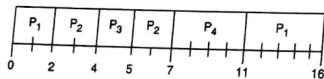

Fig. 13.3.7 : Pre-emptive SJF scheduling
- The figure SJF pre-emptive scheduling of this example is shown in the Fig. 13.3.7. Since process P1 came first, it started first and the process p2 arrived at 2.0 sec, it was given the CPU time since it is of higher priority based on its